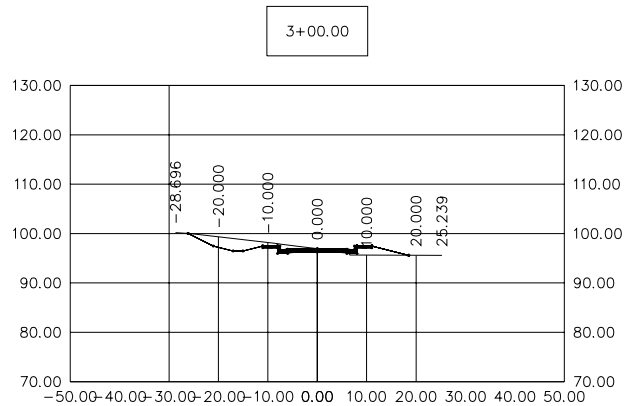

Figure 9-40 The Stephen Section view created at station 3+00.00
- 9. Now, choose the **OK** button from the **Section View Properties - 3+00.00** dialog box; the dialog box is closed and the section view is displayed, as shown in Figure 9-40. Similarly, you can create a section view at any station by selecting the required sample line.